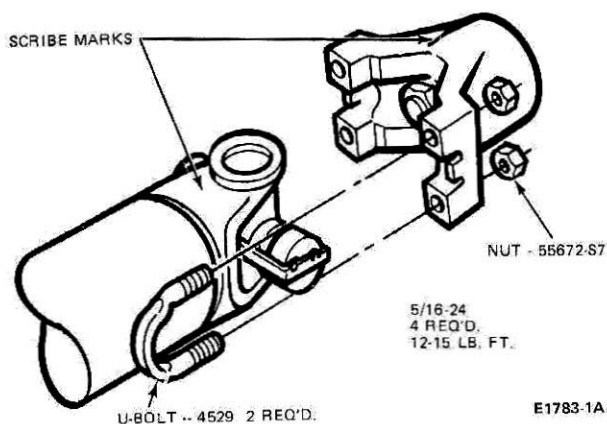

FIG. 11 Drive Shaft-to-Axle U-Joint Connection
3. Make scribe marks on the drive shaft end yoke and the axle U-joint flange to insure proper position of the drive shaft at assembly (Fig. 11). Disconnect the drive shaft at the drive pinion flange.
8. Connect the rear end of the drive shaft to the axle U-joint flange, aligning the scribe marks made on the drive shaft end yoke and the axle U-joint flange (Fig. 11).
8. Make scribe marks on the drive shaft end yoke and the axle U-joint flange to insure proper position of the drive shaft at assembly (Fig. 11). Disconnect the drive shaft from the axle U-joint flange. **Be careful to avoid dropping the loose universal joint bearing cups.** Hold the cups on the spider with tape. Mark the cups so that they will be in their original position in relation to the flange when they are assembled. Remove the drive shaft from the transmission extension housing. Install an oil seal replacer tool in the transmission extension housing to prevent transmission leakage. Refer to the Transmission Group for the appropriate tool.